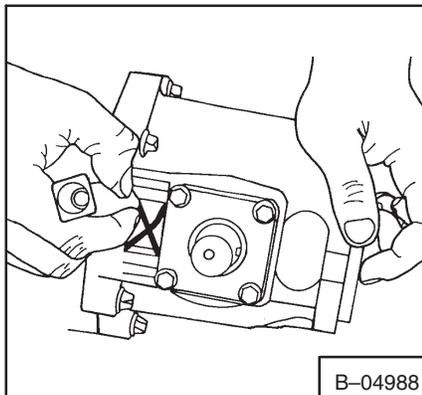

Fig. 3-105 Marking Pintle Side Of Housing
13. Mark the pintle lever side of the pump housing (Fig. 3-105).
**NOTE:** Be sure the long pintle shaft is on the correct side of the pump housing (See Fig. 3-105).